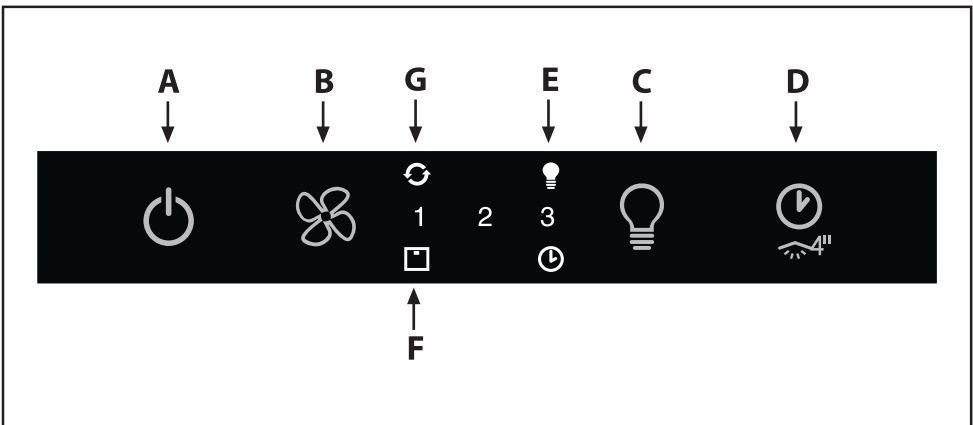

Fig.17
- If the vent on the front of the appliance is **electronic**, press button **D** for about four seconds (Fig.17).
- The **version with manual front vent** can be equipped, on request, with an "ambient light". This function is activated by pressing button "**D**" (Fig.17) for about 4 seconds. To turn off the light, simply press and hold the same button for about 4 seconds.